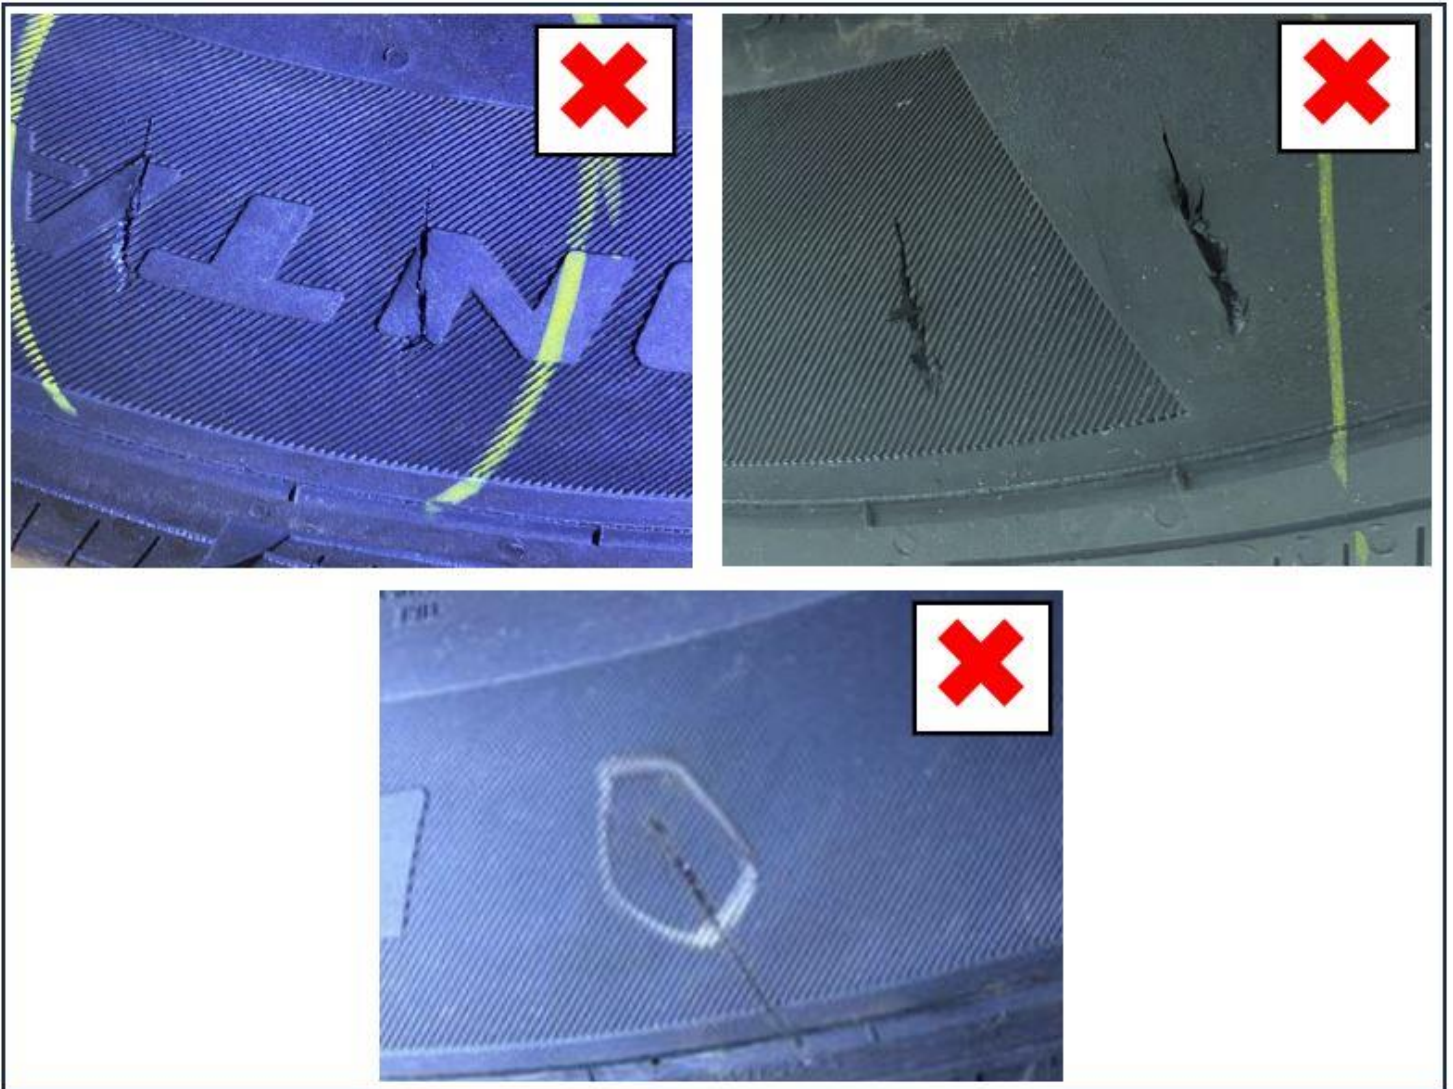

Figure 1: Damage to sidewall (tires must be replaced)
- a. If **damage or cuts** are present (**Figure 1**): **Carry out Work Procedure.**